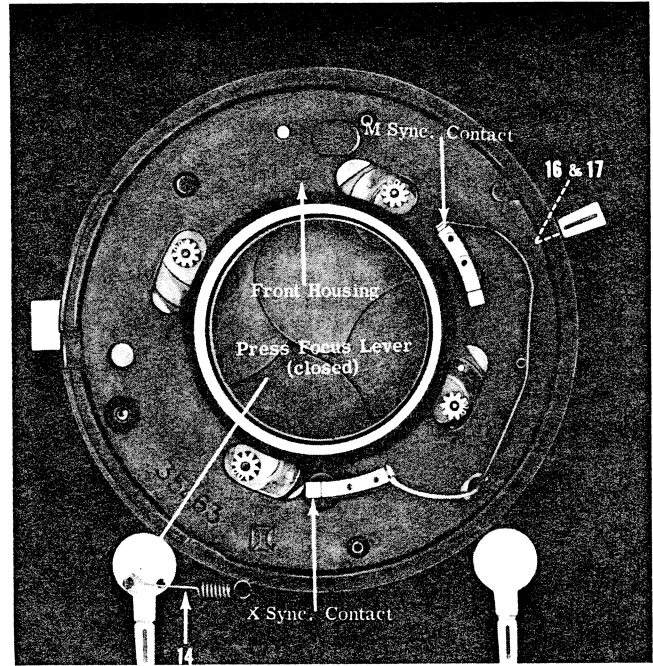
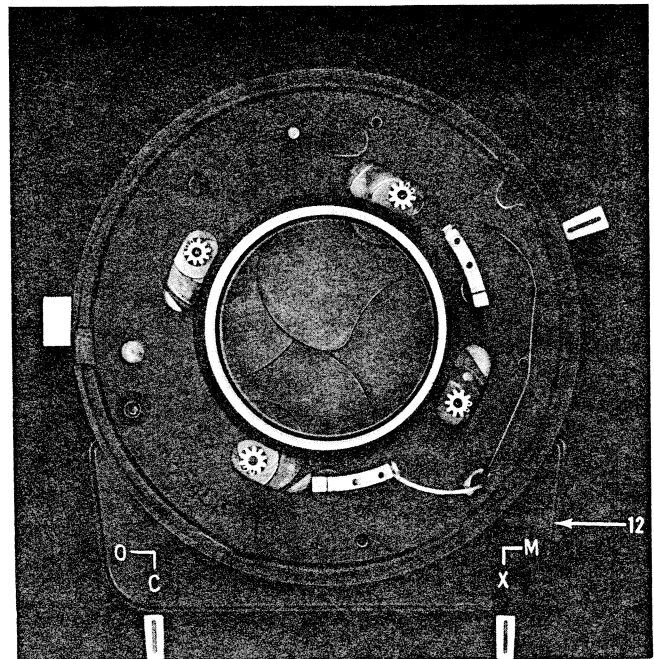
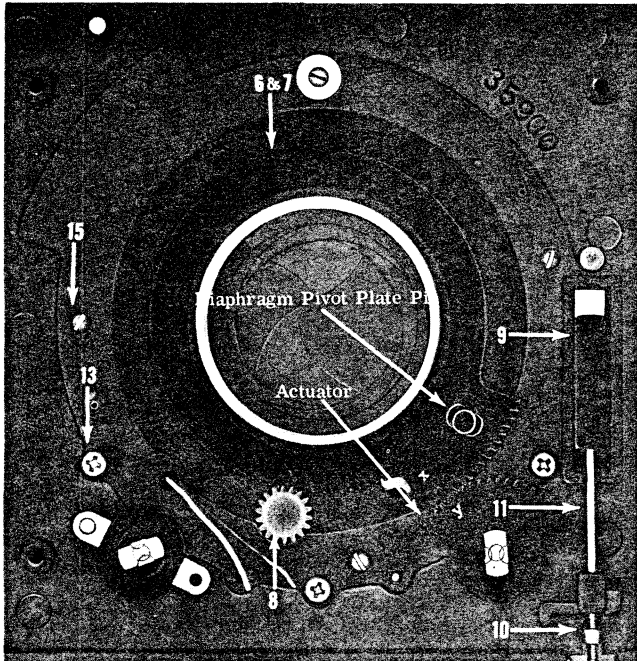

Figure 8.
Figure 9.
Figure 10.
9. Do not remove trip slide (9, Figure 10), crank follower (10) or trip link assembly (11) from shutter unless there is specific damage and one of these components requires replacement.
10. When removing front housing (Figure 8) ball (16) will be loose and under tension from spring (17).
- g. Apply a light coat of lubricant (39484P9) to four shutter leaf eccentrics (19). Remove excess lubricant so that only a light film remains. Assemble one eccentric to each of the four posts on shutter leaf plate assembly and washer(s) (18), used as required, over each eccentric. (In repair, it is suggested that three be used on each post.)
- h. Apply thin coat of lubricant (39484P8) to steel ball (16, Figure 8). Insert detent spring (17) and steel ball into lever portion of diaphragm plate assembly. Depress ball and spring while positioning front housing to rear housing. Insert contact leads thru holes in front and rear housings. Apply adhesive (39490P2) to threads of four screws (15, Figure 10) and secure front housing. Check eccentrics for free movement by rotating each eccentric thru a 15° arc. If eccentric binds or moves with difficulty, remove one of the washers by reaching thru the slot in the housing with a tweezers. Recheck movement and if necessary remove the second washer.
k. Assemble press focus spring (14, Figure 8) to press focus lever. Press focus lever is shown in the closed position. Maintain closed position throughout reassembly.
m. Position front cover (12, Figure 9) and secure with three screws (13, Figure 10).
n. On Model 2A assemble trip link assembly (11), crank follower (10) and trip slide (9).